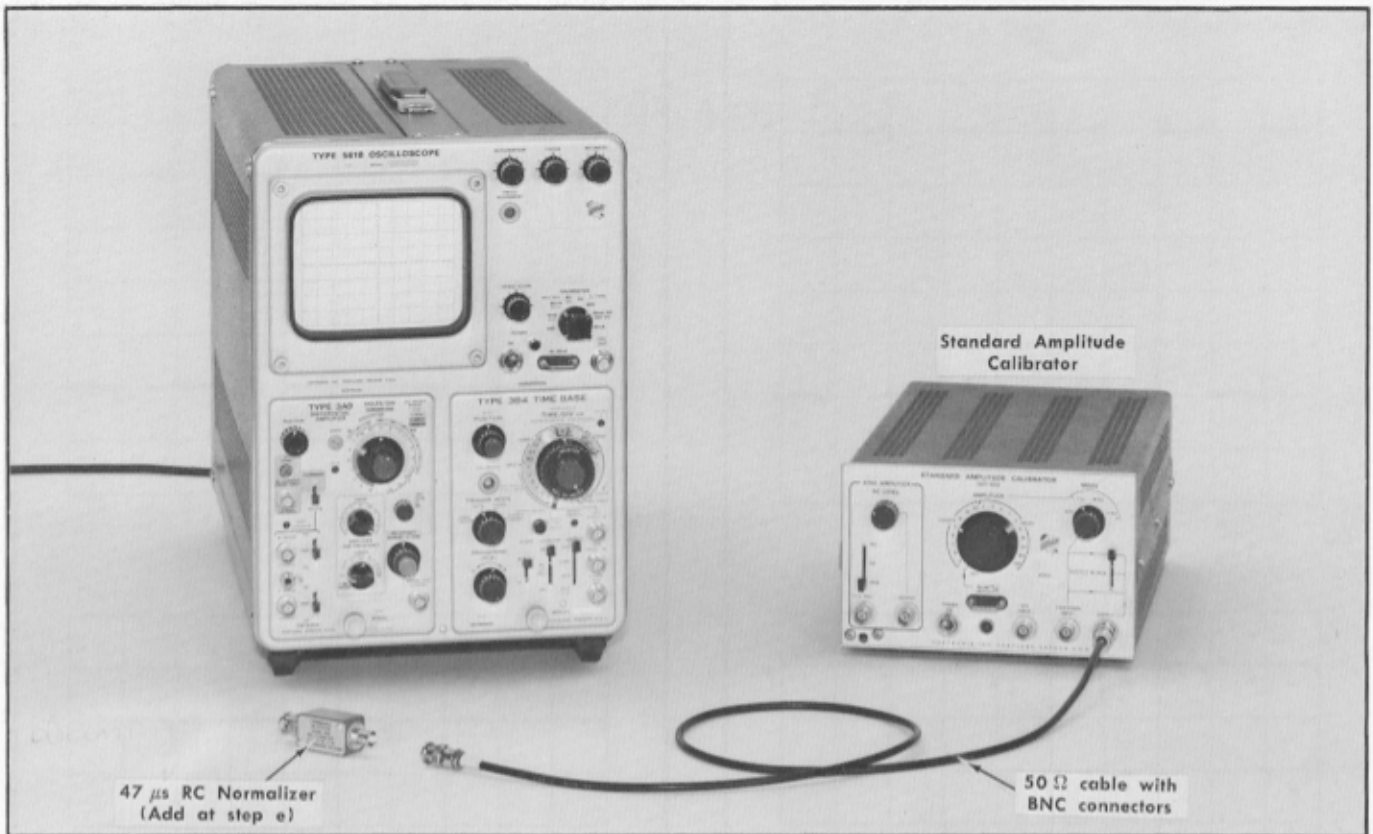

Fig. 5-22. Equipment required for step 19.
19. Check or Adjust + Input Attenuator Compensation ①
- a. Test equipment is shown in Fig. 5-22.